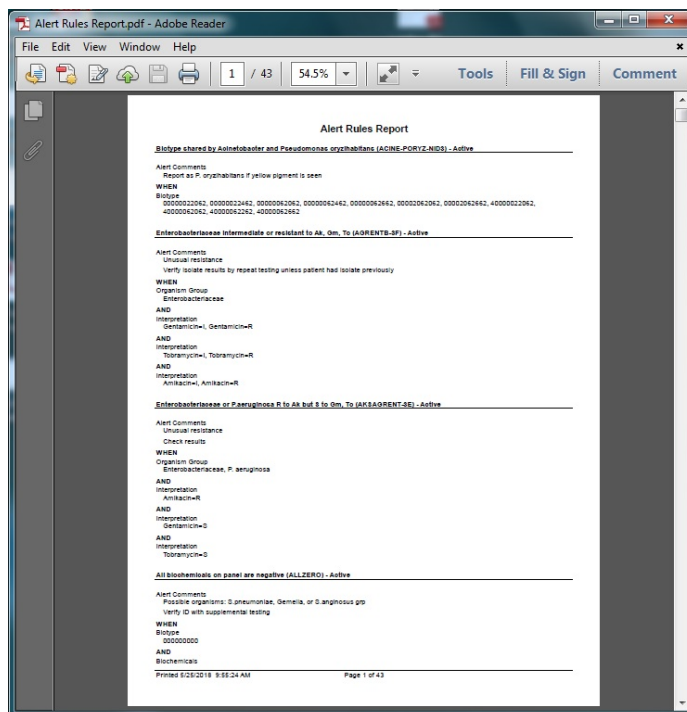

Figure 5: Alert Rules Report
13. The Alert Rules Report opens in PDF (See Figure 5).